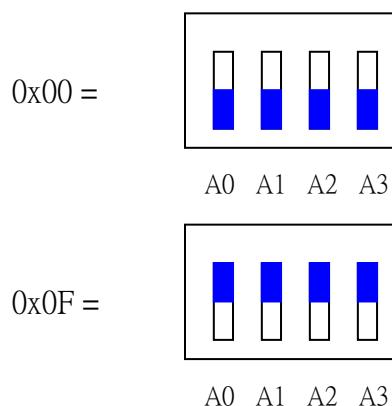

Figure 2 Hardware address selection
The hardware address of PISO-Encoder600(U) board can be set as 0~15 by DIP switch A0~A3 on the PISO-Encoder600(U) board, as shown in Figure 2. The factory hardware address setting is Hex 00. If the default address of this card is used by other device, user can change the setting to various base addresses. The addressing of PCI bus is defined in Table 1. According to the hardware address setting, programmer should call function ENC6\_REGISTRATION(cardNo, address) to confirm with the hardware setting in the beginning of the program. The more detailed description for function of ENC6\_REGISTRATION() will be presented in chapter 3.